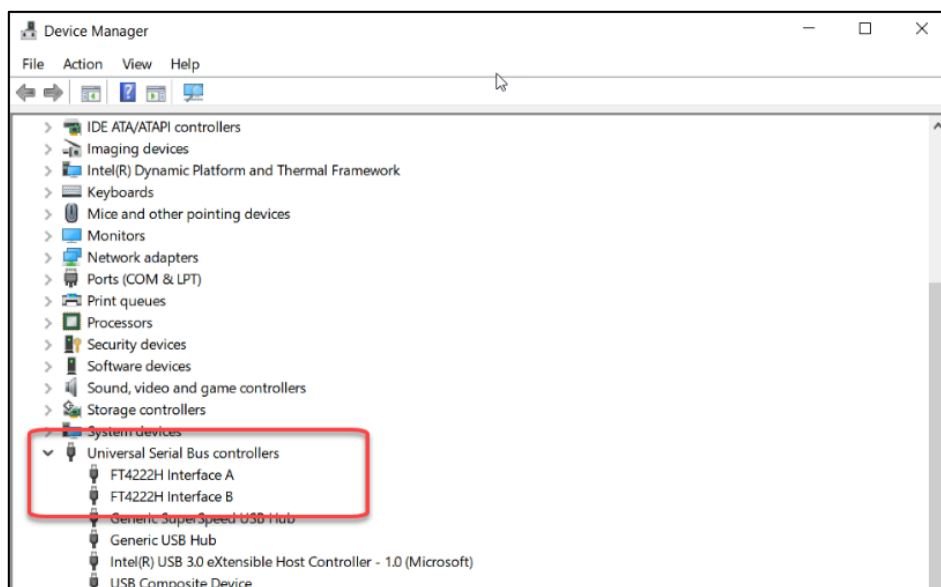

Figure 1. Windows Device Manager Display for the USB Connection
4. Open the Device Manager from the Windows control panel and check the devices listed under “Universal Serial Bus controllers” section. “FT4222H Interface A” and “FT4222H Interface B” should appear in this section as shown in Figure 1.